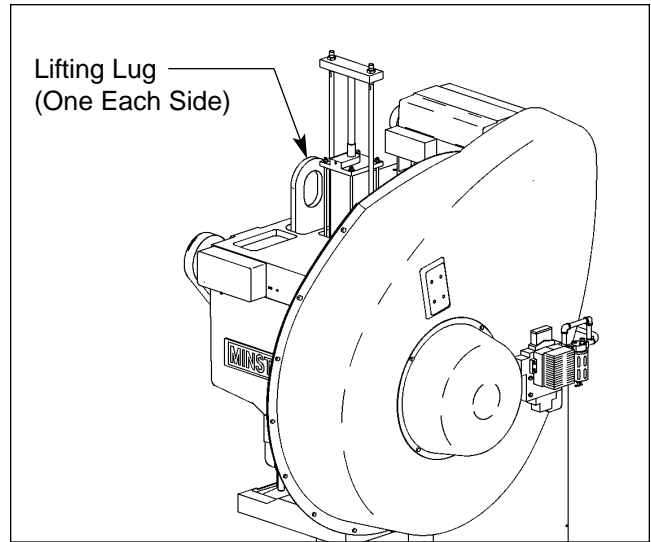

Figure 1C. Lifting lug location.
Two (2) lifting lugs are provided on the top of the press. (See Figure 1C.) Riggers should be cautioned never to place lifting slings around the press crankshaft. Workmen should also be instructed to use adequate blocking when placing slings around major frame parts to prevent cables from crushing oil lines or damaging electrical conduit and/or other exposed components.